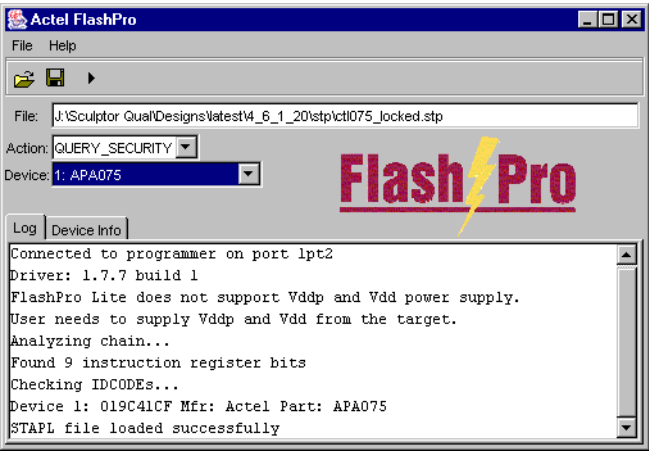

Figure 3-6. STAPL File Loaded Successfully
2. **Select your STAPL file and click *Open*.** The FlashPro software loads the file. The FlashPro Log window displays a message indicating that the software has successfully loaded the software. See Figure 3-6.